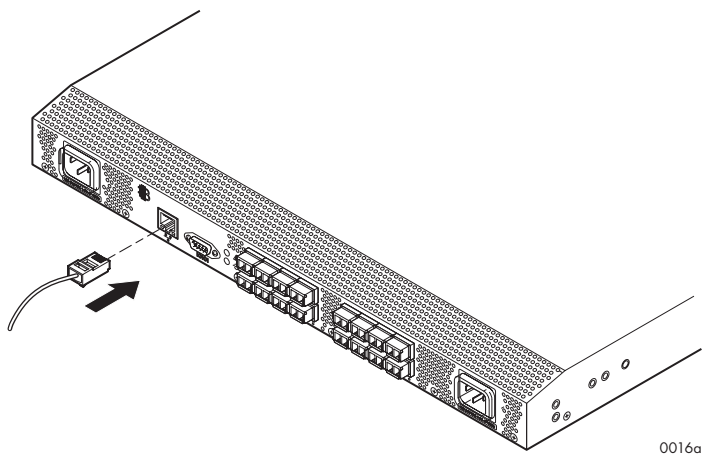

Figure 16: Connecting the Ethernet cable
1. Connect an Ethernet cable to the Ethernet port and to the workstation or to an Ethernet network containing the workstation (Figure 16).